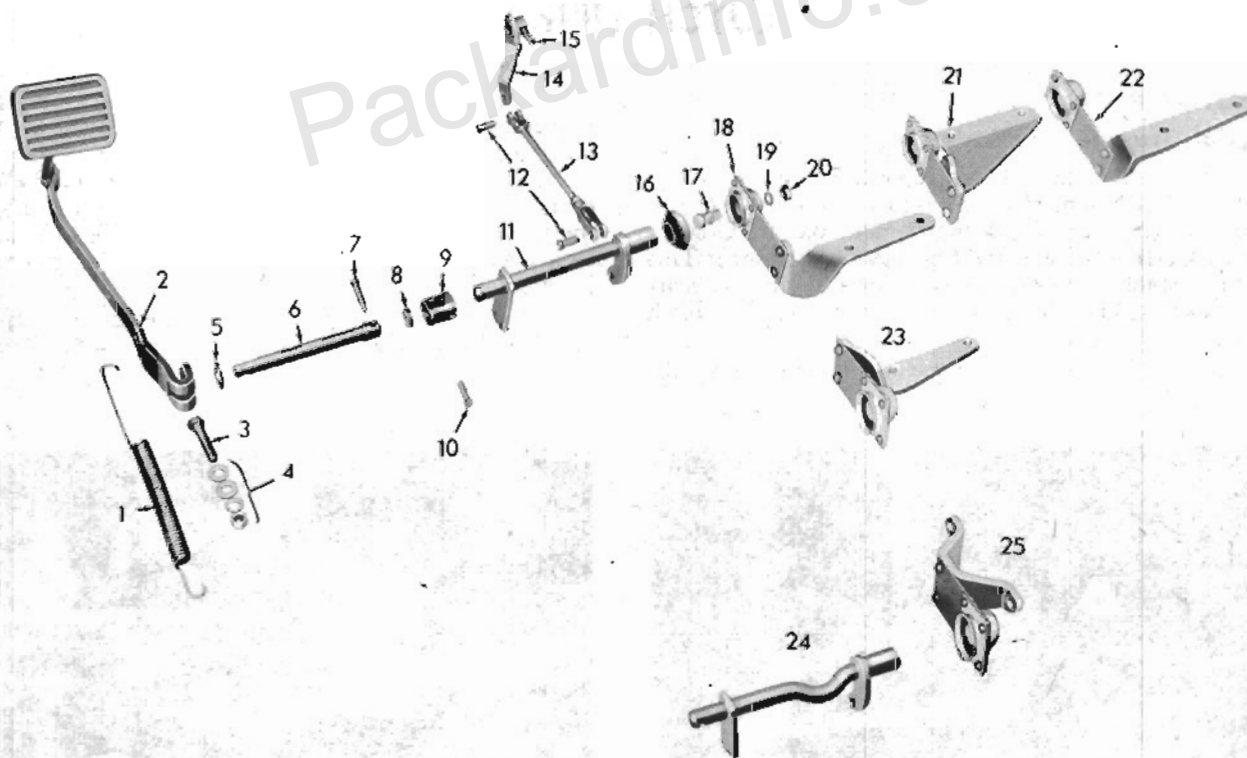

FIG. 17
Slip the shaft off the ball stud and out of the rubber boot (16, Fig. 17). Remove the boot. If necessary to replace the ball stud (17), remove the nut (20) and lock washer (19) and slip the stud out of the bracket assembly.